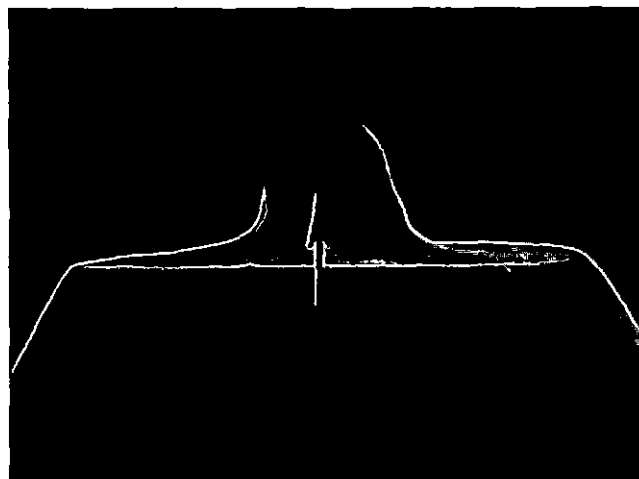

Fig. 3-9, (F60284). Eroded injector cup tip and holes
- b. Corrosion and erosion damage and the effect of excessive heat: This condition usually results from high water, acid or sulphur content in the fuel or from overloaded operating conditions, Figs. 3-9 and 3-10.